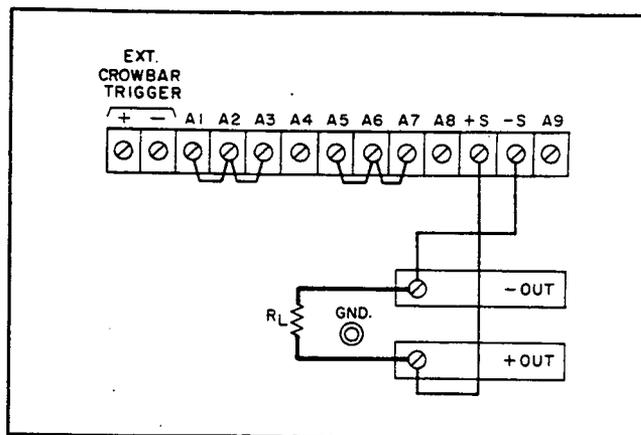

Figure 3-2. Normal Strapping Pattern
a. Turn CURRENT controls (7) and OVERVOLTAGE ADJUST potentiometer (5) fully clockwise and check that rear panel straps are connected as shown in Figure 3-2, but do not connect load  $R_L$ .
c. Set LINE switch or circuit breaker (1) ON and observe that pilot lamp (2) lights.
d. Adjust COARSE and FINE VOLTAGE controls (3) for desired indication on voltmeter (4)
e. Ensure that overvoltage crowbar circuit is operational by slowly turning OVERVOLTAGE ADJUST control (5) counterclockwise with a screwdriver until OVERVOLTAGE lamp (6) lights and voltmeter indication drops to zero volts.
g. To check the constant current circuit, first turn off the supply, connect a short across the output bus bars (see Figure 3-2), and turn it back on.
h. Adjust **COARSE** and **FINE CURRENT** controls (7) until ammeter (8) indicates desired output current or current limit. (The **VOLTAGE** controls must be set for a greater-than-zero output to obtain the output current programmed.)
3-7 This power supply was shipped with the proper rear panel strapping connections made for constant-voltage/constant-current operation with local sensing and local programming. This strapping pattern is illustrated in Figure 3-2. By means of the front panel voltage and current controls, the operator selects either a constant-voltage or a constant-current output. Whether the supply functions in the constant-voltage or the constant-current mode depends on the settings of the voltage and current controls and on the resistance of the output load. For values of load resistance greater than a critical crossover value equal to the voltage setting divided by the current setting, the supply operates in the constant-voltage mode. With a load resistance smaller than this critical value, it operates in the constant-current mode. The transition occurs automatically; no switches need to be operated or connections changed.
3-28 Because of the unavoidable voltage drop developed in the load leads, the normal strapping pattern shown in Figure 3-2 will not provide the best possible voltage regulation at the load. If, for example, one were to use 4-gauge wire to connect a load that is located only 5 feet from a
*The +S jumper is the one that links the +S terminal to the +OUT terminal when the supply's terminals are strapped for normal operation as shown in Figure 3-2. The -S jumper is the one that links the -S terminal to the -OUT terminal.*